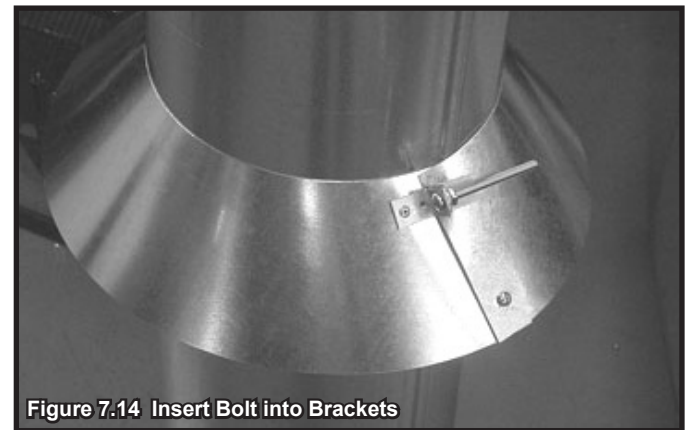

**Figure 7.13**
- Slide the roof flashing over the pipe sections extending through the roof as shown in Figure 7.13.
- Caulk the perimeter of the flashing where it contacts the roof surface. See Figure 7.13.